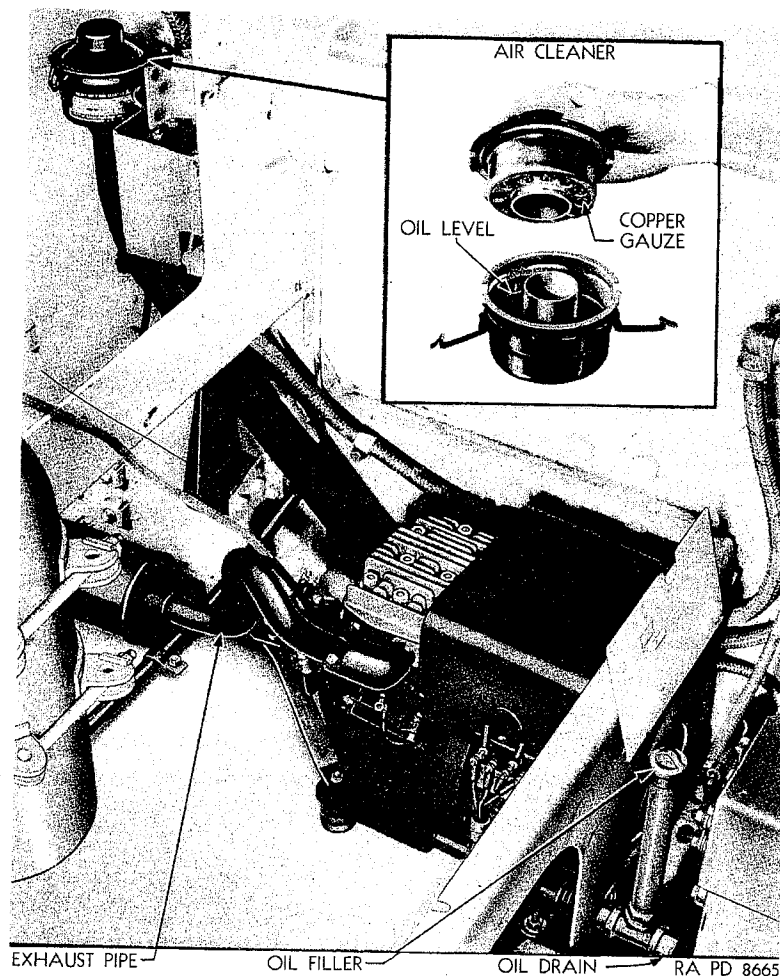

Figure 21—Auxiliary Power Plant Oil Filler and Air Cleaner
a. Lubricant should be maintained at the level shown on the plunger gauge. Gauge is accessible from left of fighting compartment, after lifting cover just behind battery (See Fig. 21). Check regularly once each week and drain and refill every 1000 miles.
(1) Unsnap the two clips holding air cleaner cover to case and remove cover and ring-shaped filter. (See Fig. 21.)
(2) Wash all parts thoroughly in dry cleaning solvent and dry with compressed air, if possible.
(3) Add fresh oil to air cleaner case in sufficient amount to bring oil level up to point marked "Oil Level" on case.
(4) Install filter in case, install air cleaner cover, and snap cover clips in place.